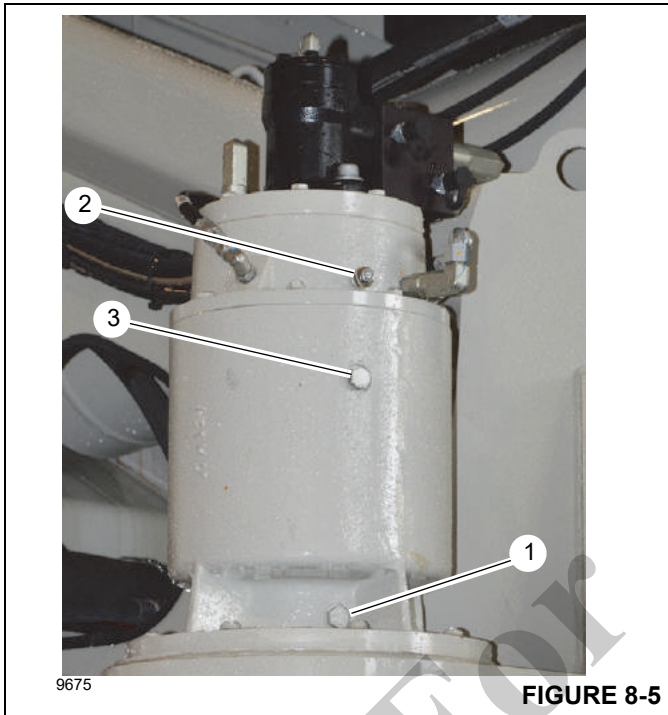

FIGURE 8-5
1. Remove the drain plug (1, Figure 8-5) and vent plug (2) to drain the gearbox oil.
3. Replace the drain plug (1). Inspect and replace the o-ring as needed.
4. Remove the oil level/fill plug (3). Fill the swing gearbox with 2.4 l (2.5 qt) of the appropriate type of oil, and then replace the vent plug (2) and level/fill plug (3). Inspect and replace the o-rings as needed. See "Lubrication Points" on page 8-3 of this manual.